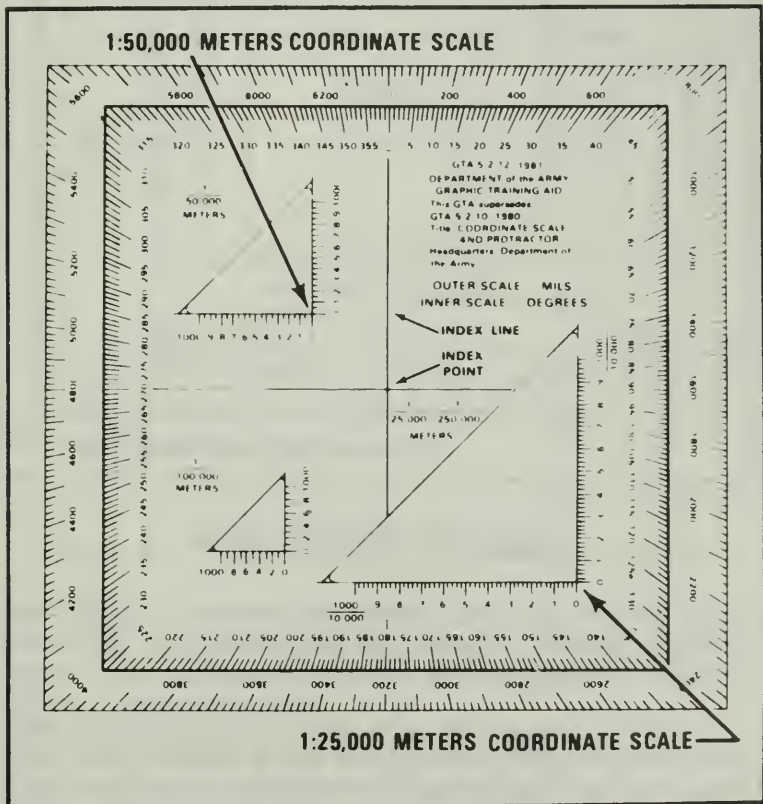
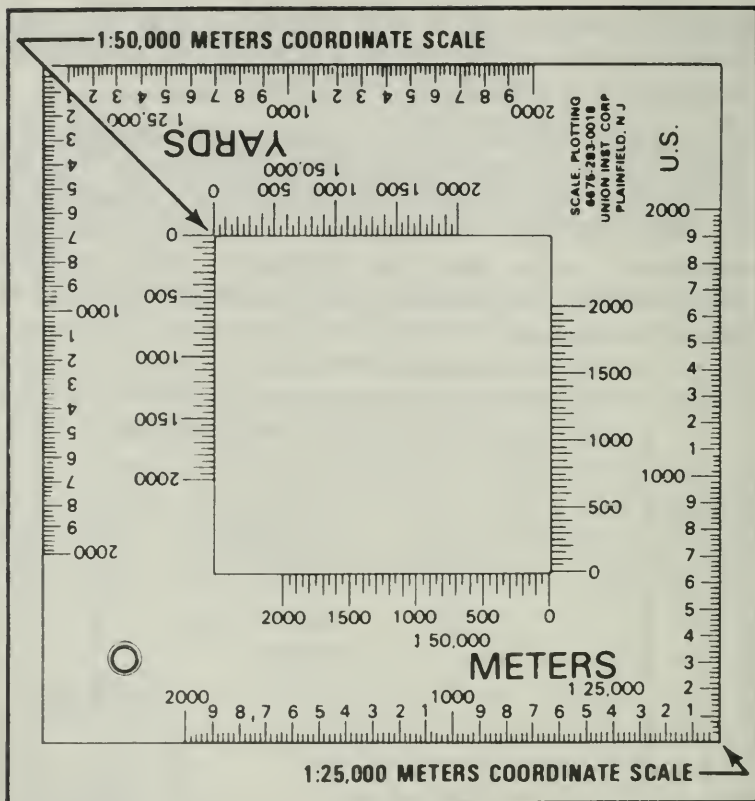

Figure 28. Coordinate scale and protractor.
Figure 29. Plotting scale.
3. The most accurate way to determine the coordinates of a point on a map is to use a coordinate scale. You do not have to use imaginary lines because you can come up with the exact coordinates. This scale is on the coordinate scale and the protractor (GTA 5-2-12) (Figure 28) or the plotting scale (Figure 29). On both of